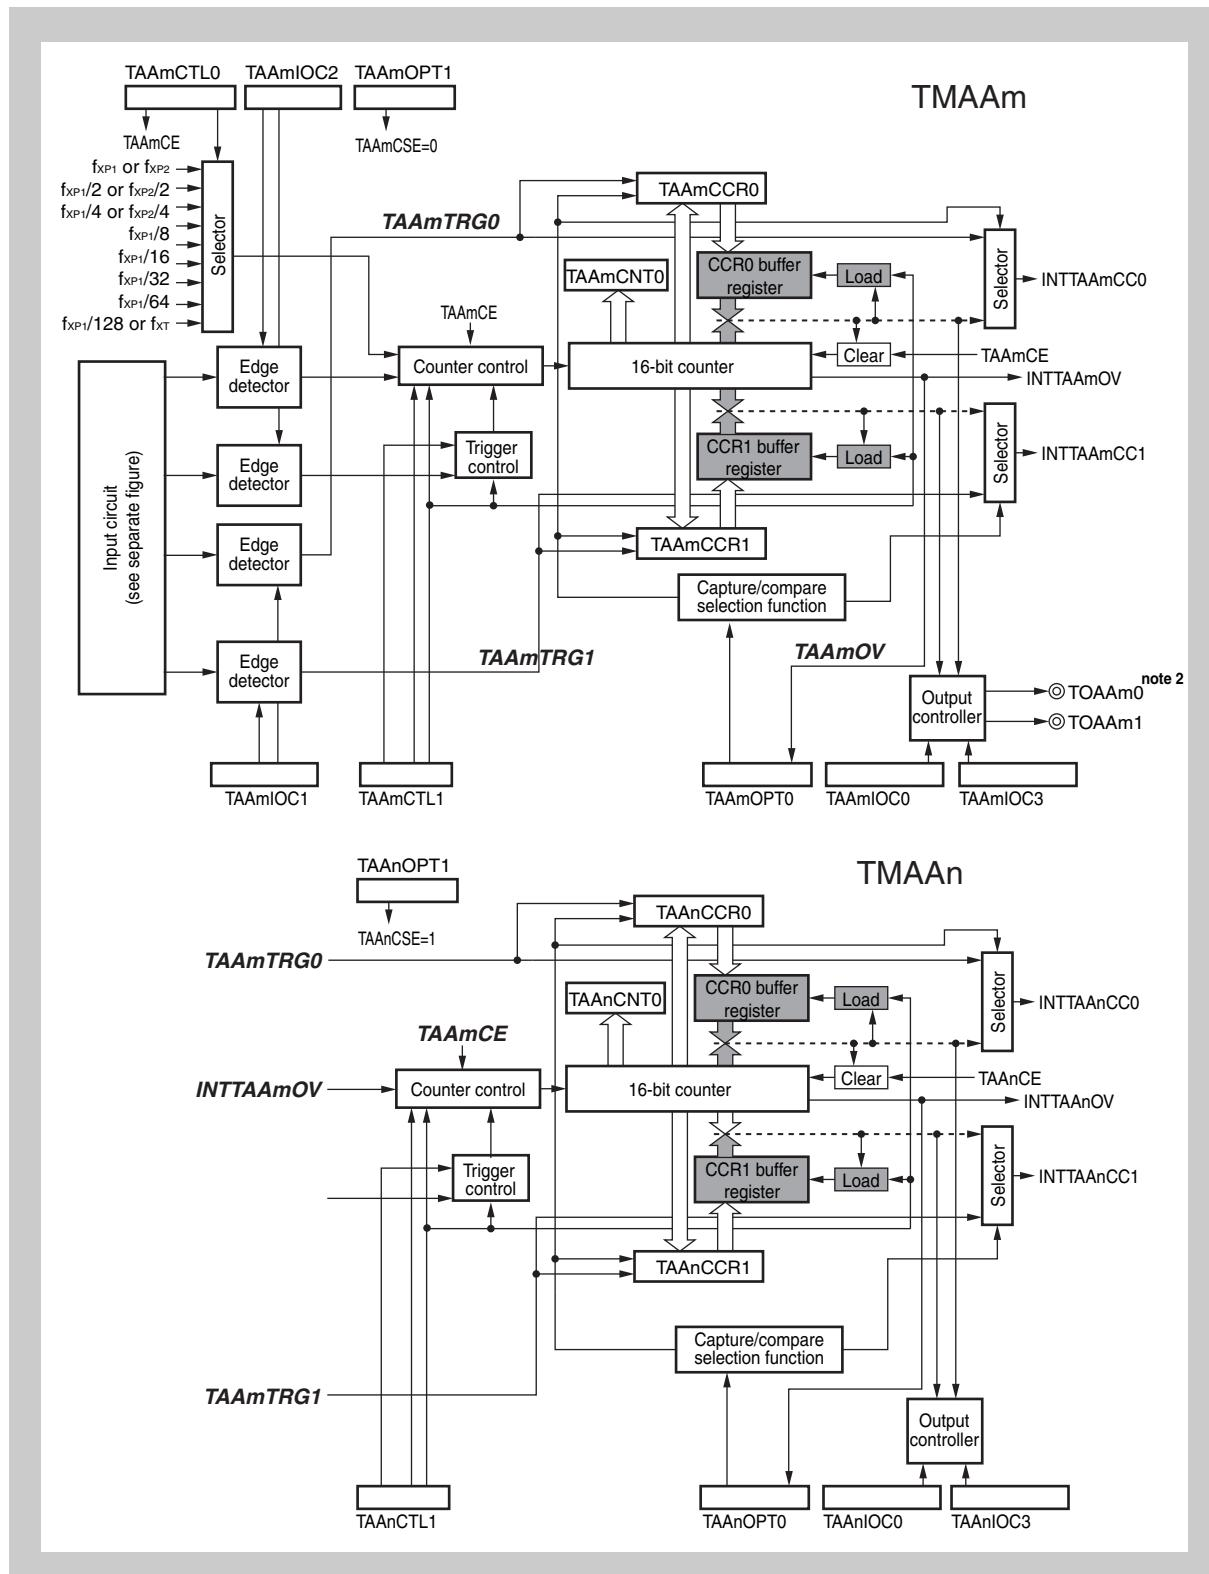

Figure 11-36 Block Diagram of TAAm and TAAn in 32-bit Capture Mode
*Figure 11-36* shows the block diagram of TAAm and TAAAn in cascade mode. Signals that are irrelevant in cascade mode are not shown, the connections to the internal bus are also hidden for better readability of the image, as *Figure 11-1 on page 407* can be used for a in-depth look of each timer.